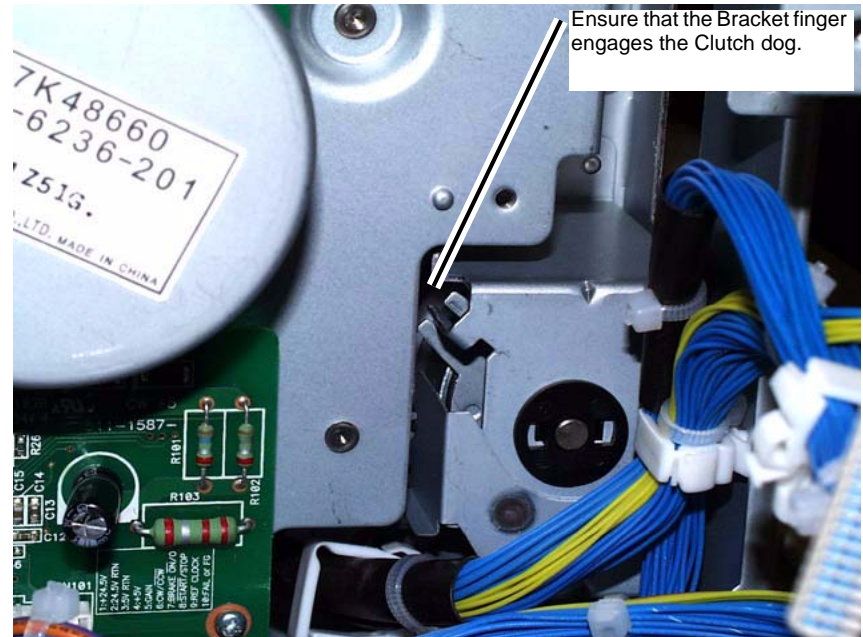

Figure 14 Installing the Clutch Bracket
2. During installation of the Clutch Bracket, ensure that the bracket finger engages the Clutch dog. (Figure 14)